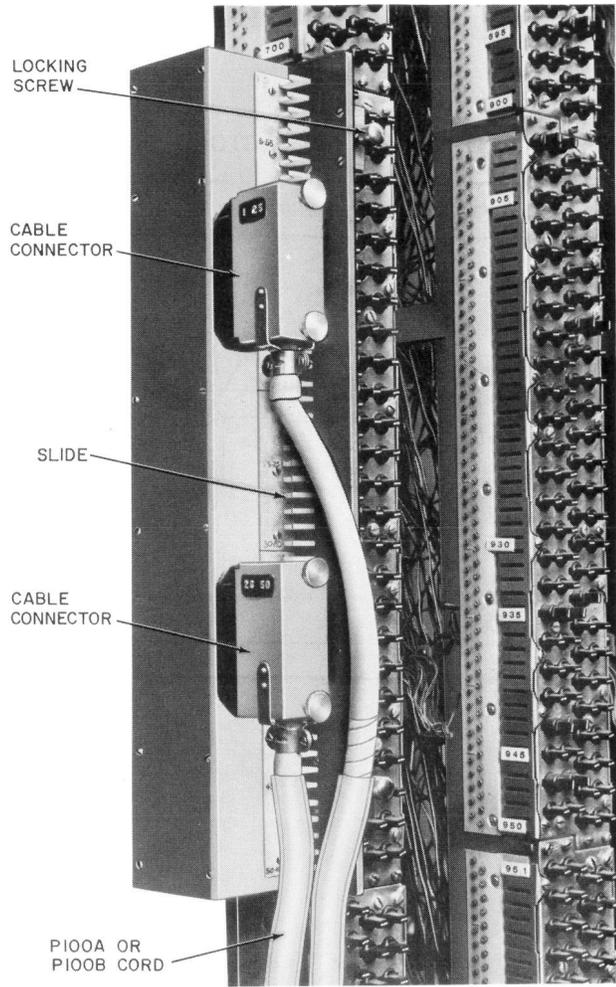

Fig. 1—C Test Connectors on 300-Type Connector
3.01 The front and back views of the C test connector are shown in Fig. 1 and 2. The connector consists of a plastic baseplate containing an assembly of 100 spring-mounted plungers (50 pairs). The plungers are arranged to make positive